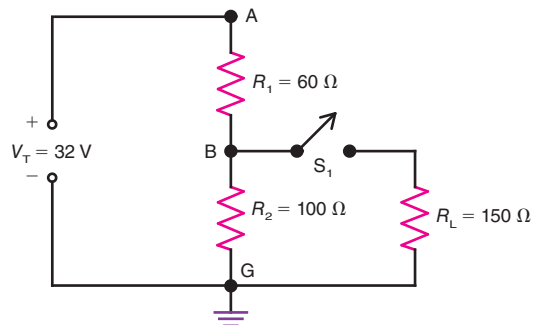

Figure 7-37
- 7.33 In Fig. 7-37, calculate I_1 , I_2 , I_L , V_{BG} , and V_{AG} with
- 7.34 With S_1 closed in Fig. 7-37, which resistor has only the bleeder current, I_B , flowing through it?